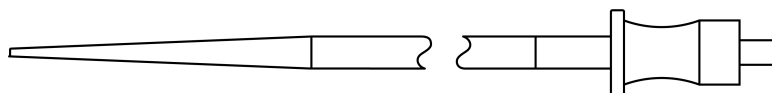

Figure 3: Dilator
The Edwards SAPIEN 3 pulmonic delivery system (Figure 2) facilitates the placement of the bioprosthesis. It consists of an inline sheath, balloon catheter for deployment of the Edwards SAPIEN 3 transcatheter heart valve, and an outer shaft and valve capsule to cover the transcatheter heart valve during insertion and tracking to the intended deployment location. The delivery system includes a tapered tip to facilitate crossing of right heart structures. The valve capsule and tapered tip are hydrophilic coated. A visual balloon shaft marker is provided to assist with balloon recapture. A stylet is included within the guidewire lumen of the delivery system. The 28 F hydrophilic coated dilator (packaged with the delivery system) is used to predilate the vessel prior to insertion of the delivery system, if necessary (Figure 3).
- **Dilator (Figure 3)**